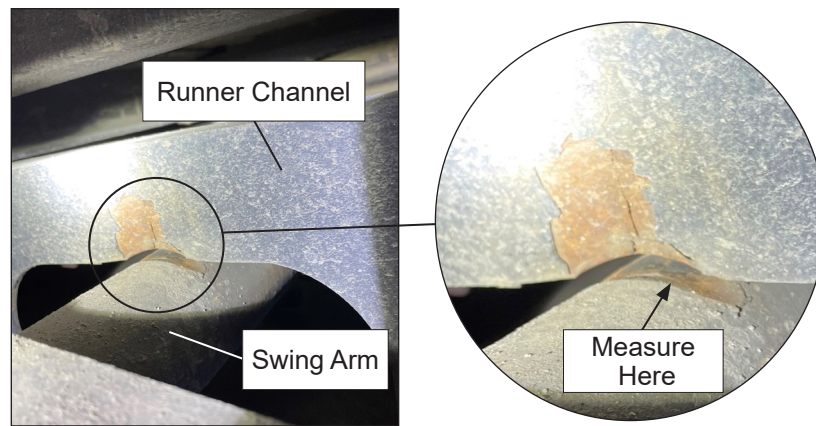

Figure 3 — Evidence of Interference; Measuring Depth on Swing Arm
- If there is any evidence of interference (refer to Figure 3), perform steps a through d shown below.